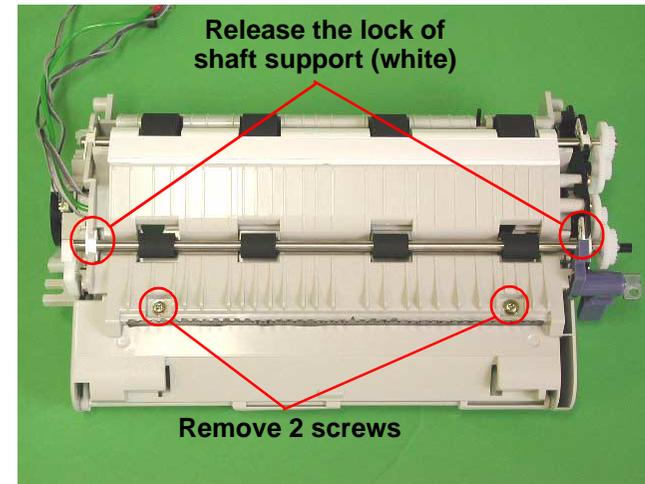

Figure 7-18. Roller Removal (1)
1. After moving the paper edge guide in the direction of the arrow, remove the screw (silver, P-tite + washer). Remove the two screws shown in Figure 7-18 now if they have not yet been removed.